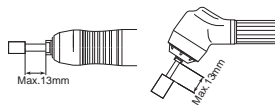

Fig. 1
- Do not exceed 13mm of overhang for mounted grindstones as shown in Fig. 1. If the overhang must exceed 13mm, reduce the motor speed in accordance with Table. 2.